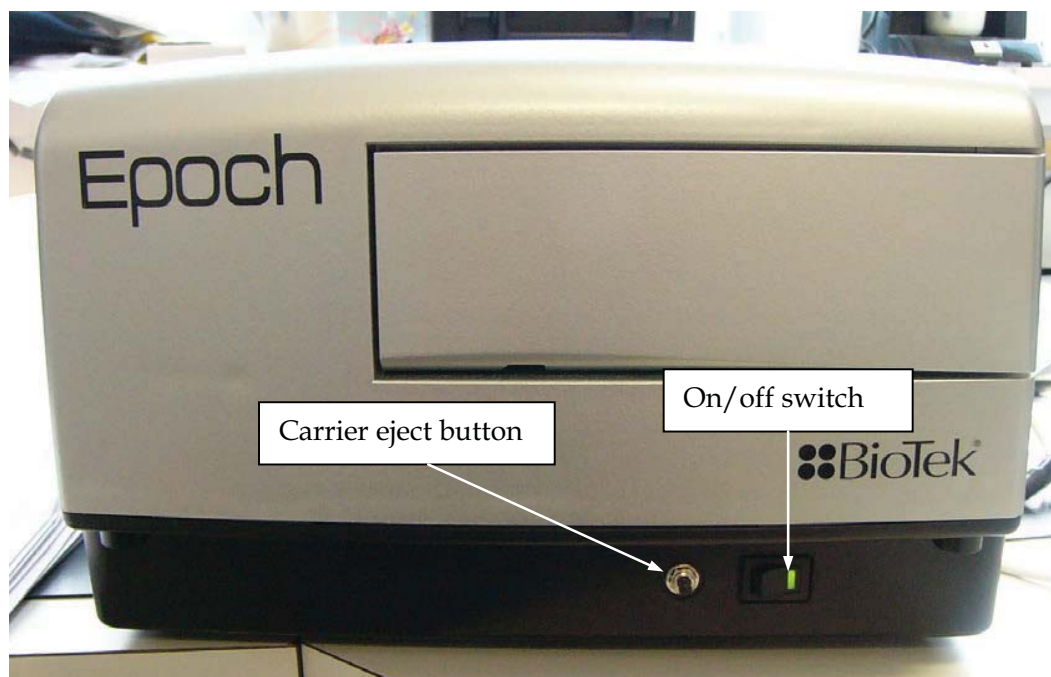

Figure 3: Power on/off switch and carrier eject button
1. Locate the power on/off switch on the front of the instrument, next to the carrier eject button. See **Figure 3** below. The power on/off switch has a green, internal LED lamp that is illuminated when the power is on. The carrier eject button, when pressed, ejects the carrier out of the reader or pulls the carrier back inside the reader to the carrier home position.